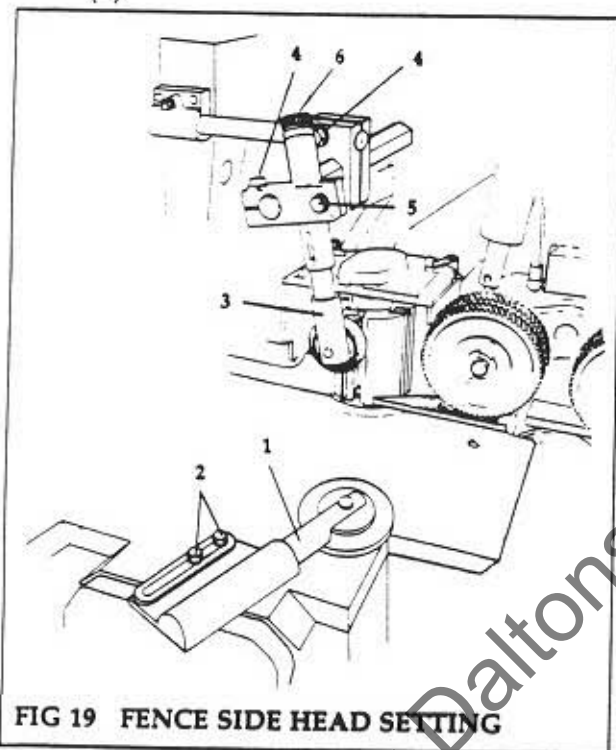
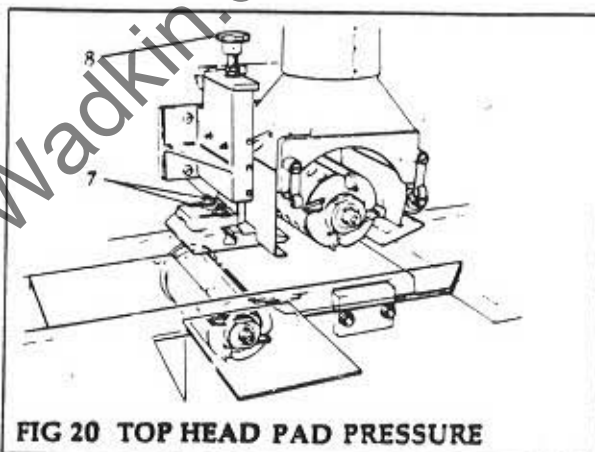

FIG 19 FENCE SIDE HEAD SETTING
FIG 20 TOP HEAD PAD PRESSURE
- Release locking handle (1).
- Adjust cutterblock height by rotating the hand screw (2) clockwise to raise the spindle or anticlockwise to lower.
- Refasten locking handle (1).
- Releasing spindle barrel lock (3).
- Adjust using handscrew (5).
- Tighten spindle barrel lock (3).
**Final Adjustments and Settings (Fig 19, Fig 20)**